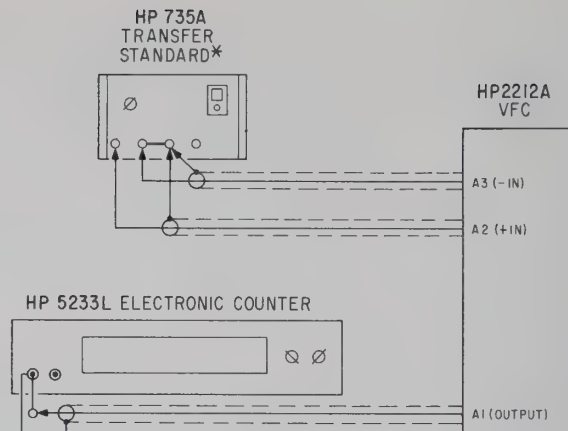

Figure 4-4. Setup for Calibrating 1V Internal Standard
1. Turn on the 2212A-M3, connect it as indicated in Figure 4-4, and turn on the Counter and the Transfer Standard.